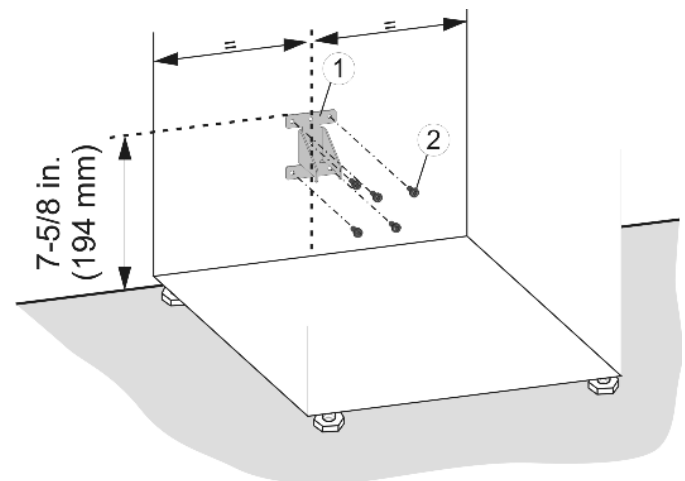

Fig. 34
- Install the anti-tip device Fig. 34 (1) using appropriate screws Fig. 34 (2).